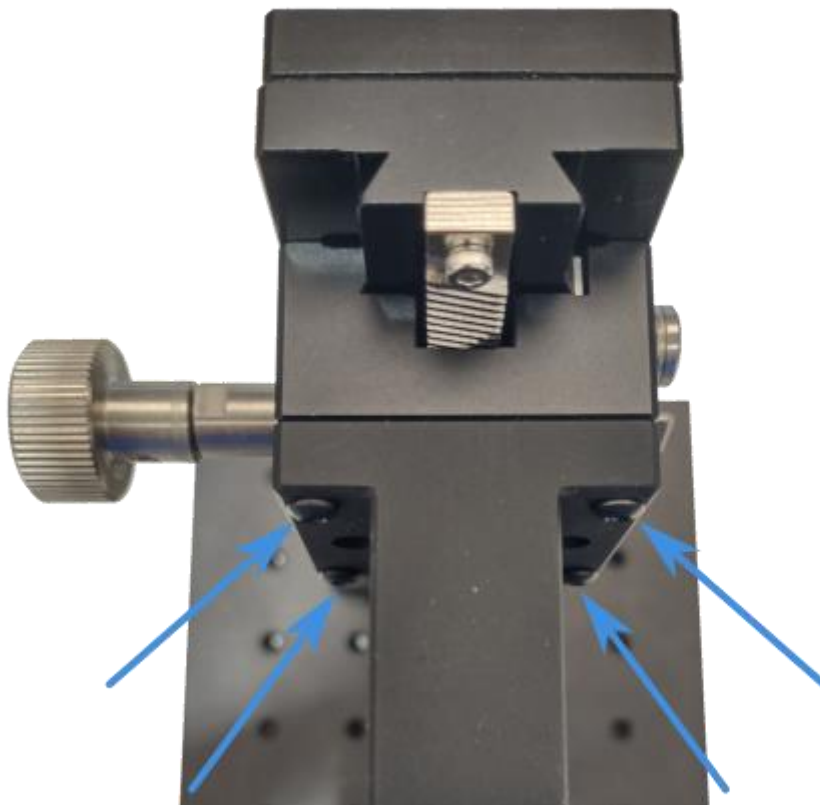

Figure 8.1. Mounting positions for attaching the solar simulator to the vertical stage platform.
1. **Height adjustable stage (sold separately).** The solar simulator lamp bracket is directly attached to the Z-stage platform, allowing manual adjustment of the lamp height. The lamp is attached to the stage using four M3 bolts as shown in **Figure 8.1**.